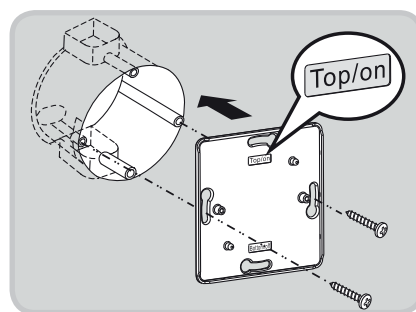

Fig. 11
- Install the support frame on the box with screws (see Fig. 11).